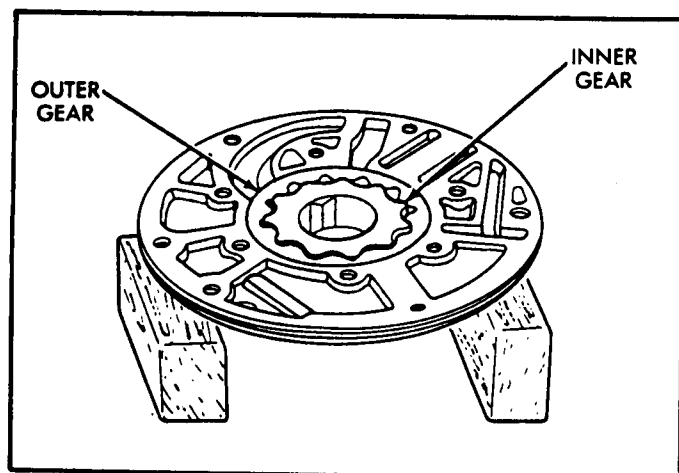

Figure 52
14. Install the inner pump gear into pump pocket (See Figure 52).